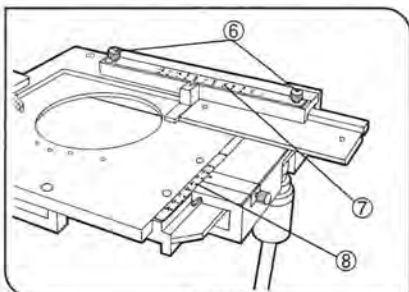

Fig. 87
1. Loosen the two clamping knobs Ⓢ at the top of the stage's X-axis guide. Positioning the scale numerals correctly, plate the X-axis scale ⑦ on the guide. Then tighten the clamping knobs. (Fig. 87)
2. Positioning the scale numerals correctly, place the Y-axis scale Ⓢ on the top of the stage's Y-axis guide. The scale will be held in place magnetically. (Fig. 87)